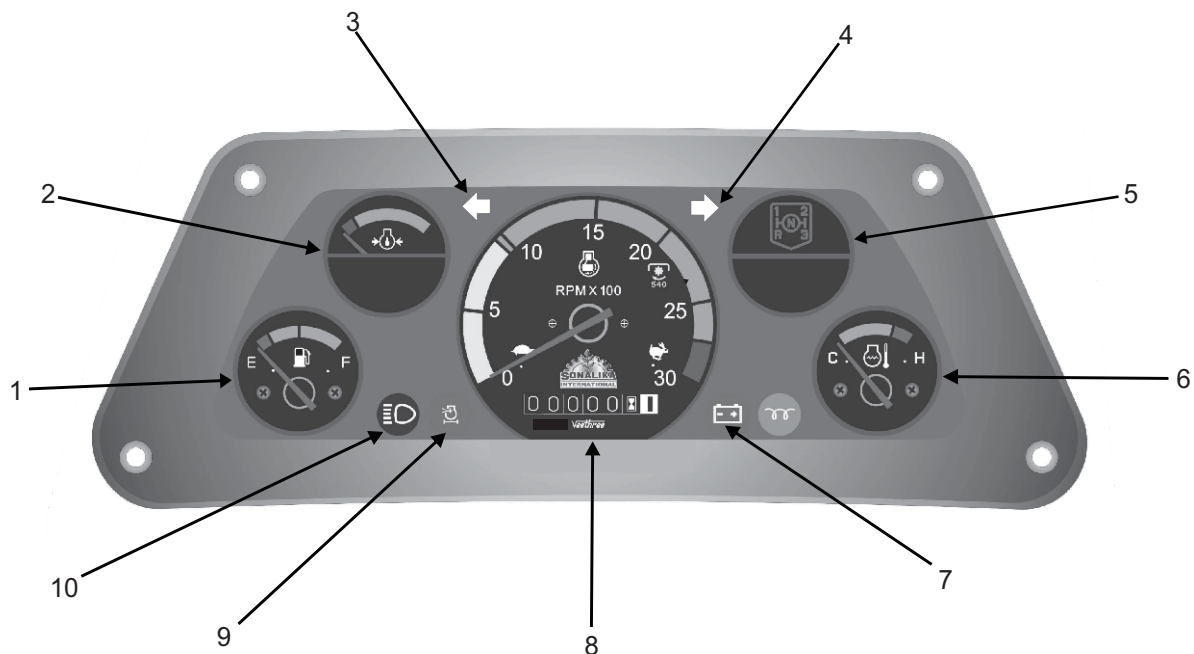

Fig. 3.2a
3.2a Instrument Panel (For 20 model) - Fig. 3.2a